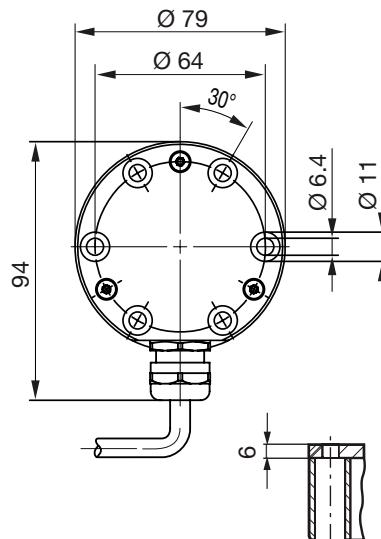

Fig. 3-1: BTL7-...-K-... transducer, construction and function
**Fastening:** For secure fastening, tighten the transducer with cylinder screws (ISO 4762, M6 x 16 - A2-70) at all 6 mounting holes (see Figure 3-1). All screws must be tightened with 3.5 Nm.